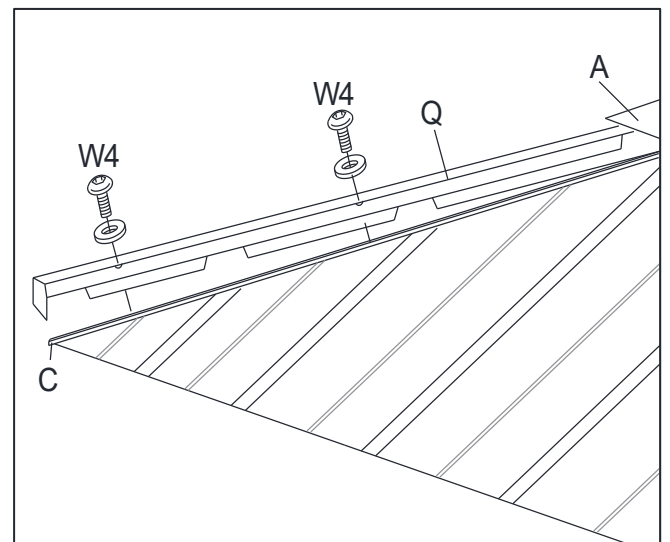

Fig.12.2
12. Put Top Panel Cover (Q) on the top of Long Top Bar (C) and then insert Top Panel Cover (Q) into the gap between Upper Central Connector (A) and Long Top Bar (C). Then attach Top Panel Cover(Q) to Long Top Bar (C) with Bolt (W4). See Fig.12 (Fig.12.1——Fig.12.2).